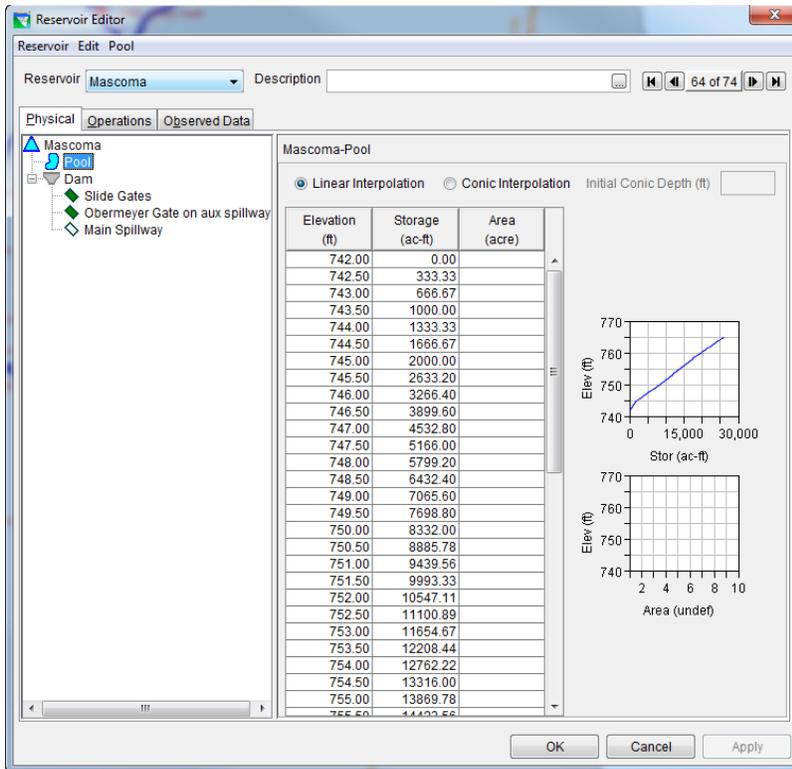
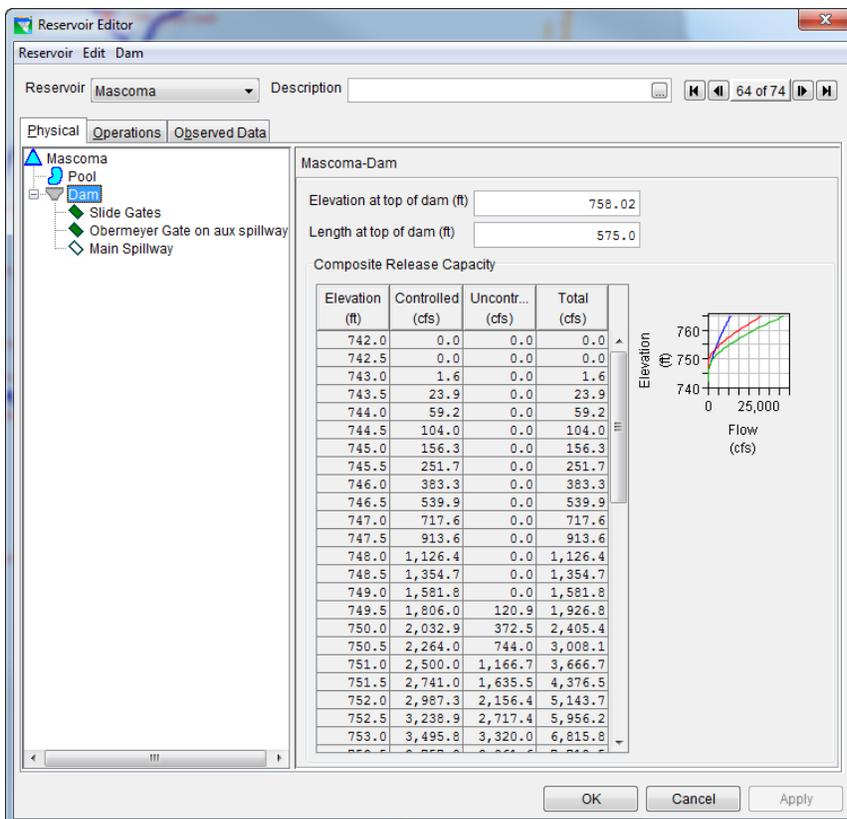

Figure 3: Reservoir Editor: Physical Tab – Pool
Figure 4: Reservoir Editor: Physical Tab -- Dam
The physical characteristics of the reservoir are separated between the Pool and the Dam in the HEC-ResSim model. The elevation-storage-area defines the pool as shown in Figure 360. The dam consists of three types of outlets: (1) controlled slide gates, (2) controlled Obermeyer gate on aux spillway, and (3) uncontrolled Main Spillway, as shown in Figure 461.